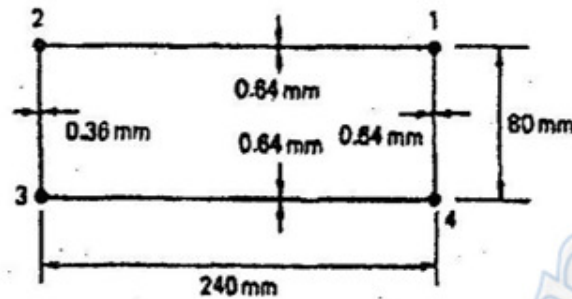

Fig. Q. 13 (b)
- (b) Find the position of the shear centre of the rectangular four boom beam section shown in Fig. Q. 13 (b). The booms carry only direct stresses but the skin is fully effective in carrying both shear and direct stress. The area of each boom is 100 mm^2 .